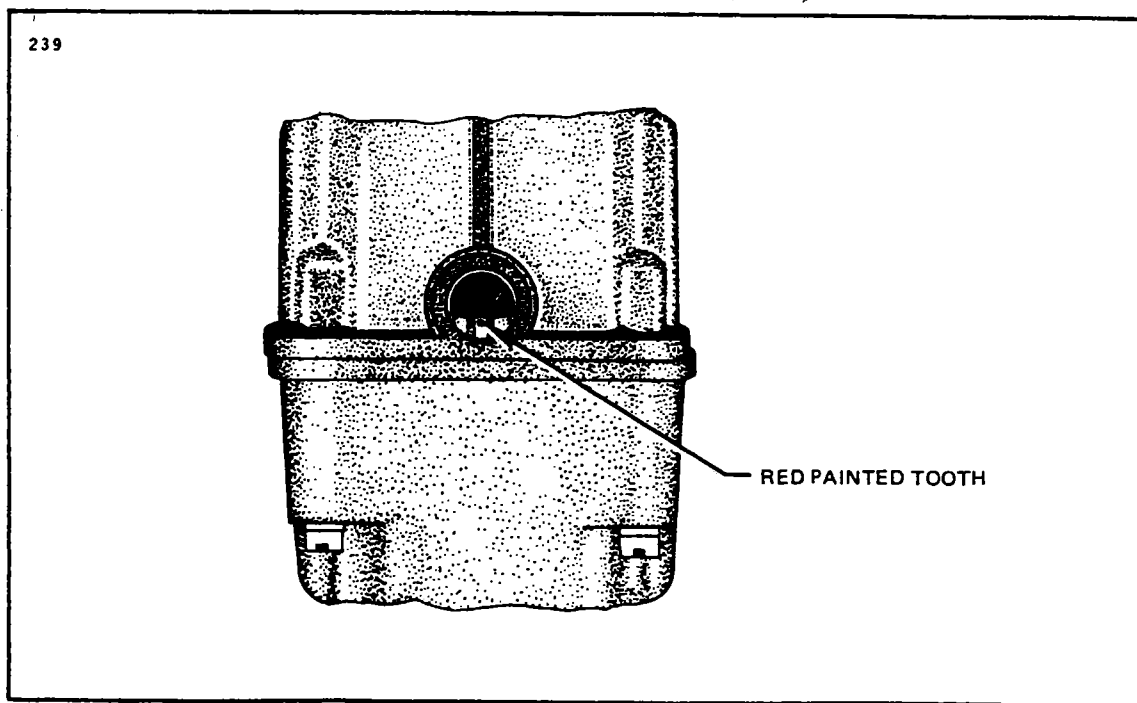

Figure 8B-7. Painted Tooth Centered in Timing Window
d. The magnetos incorporate a built-in pointer and a degree wheel with sufficient reference to assist the user in magneto timing procedures. Printed upon the rotating magnet are marks to indicate magneto neutral and magneto "E" gap (8°). (Refer to Figure 8B-6.) Also included are retard angle references of 15°, 20° and 25°. These marks are set up for either clockwise (R) or counterclockwise (L) rotation of the magneto as viewed from the magneto drive end. The timing tooth of the large distributor gear is marked with red paint. (Refer to Figure 8B-7.)